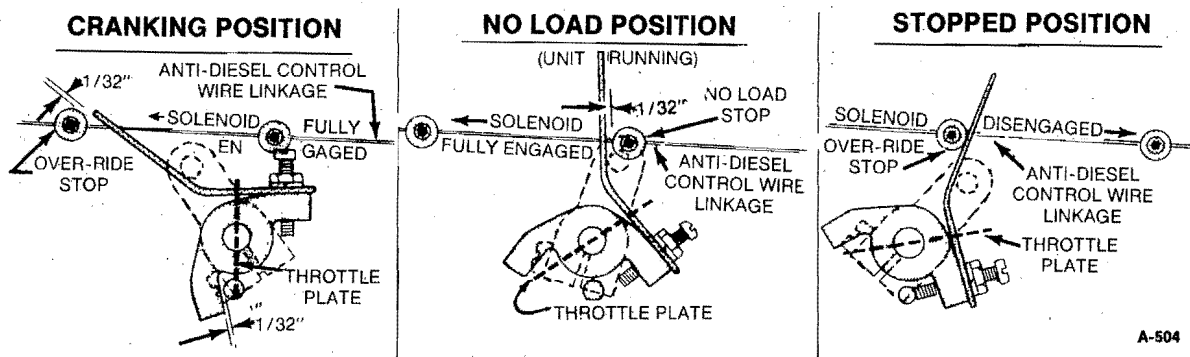

FIGURE 20. THROTTLE STOP
8. **Throttle stop** — With the engine stopped, see that the throttle stop lever (attaching the override lever, Figure 20) engages the carburetor throttle stop pin by  $1/4$  to  $1/2$  turn. This can be done by backing off the screw until it just clears the stop pin, then turning in  $1/4$  to  $1/2$  turn. This provides a "cracked open" throttle for good starting characteristics. Do not adjust the screw so far as to cause the engine to "diesel" and refuse to stop, thus defeating the purpose of the anti-dieseling control.